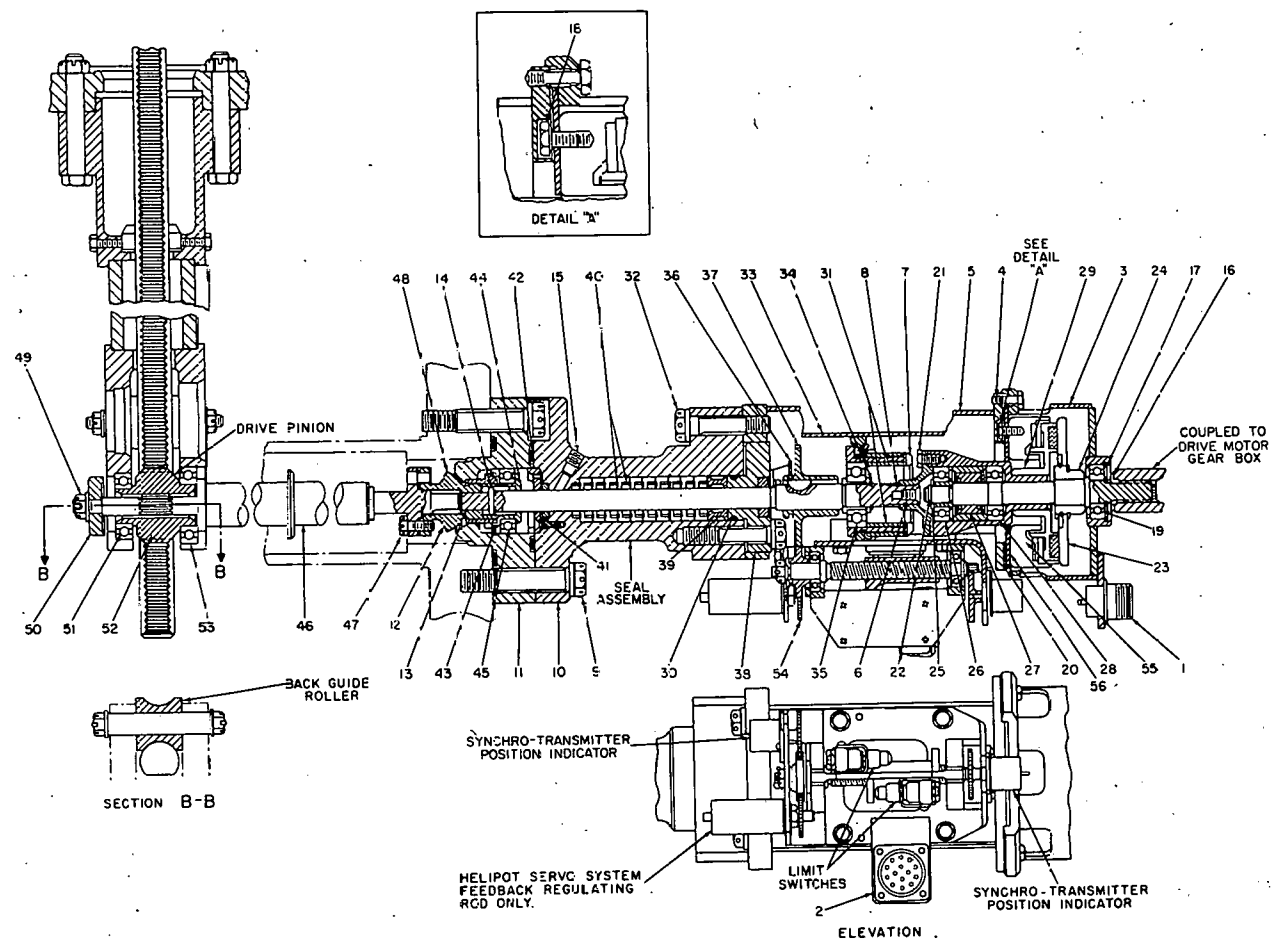

Figure 3-5. Control Rod and Drive Mechanism
### CONTROL ROD DRIVE MECHANISM AND MOTOR (Figure 3-5)
1. Remove primary makeup water pressure from high-pressure side of seal (15, Figure 3-5) by closing appropriate valves.
2. Remove electrical connector from (1) to electrically isolate the clutch drive assembly.
3. Remove electrical connector from (2) to electrically isolate microswitches and servo mechanism.
3. Magnetic Clutch Assembly (Figure 3-5)
#### 4. Instrument Pad and Drive Assembly (Figure 3-5)
**5. Seal Assembly Removal (Figure 3-5)**
6. Control Rod Drive Shaft (Figure 3-5)